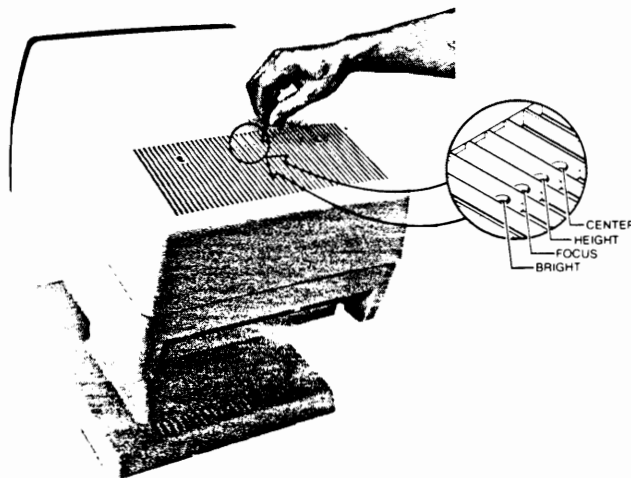

Figure 5-3. Location of Four Raster Adjustments (CENTER, HEIGHT, FOCUS, AND BRIGHT)
2. Using the hex end of the alignment tool, adjust the CENTER adjustment at the top of the unit (figure 5-3) to center the display on the screen in the horizontal dimension.